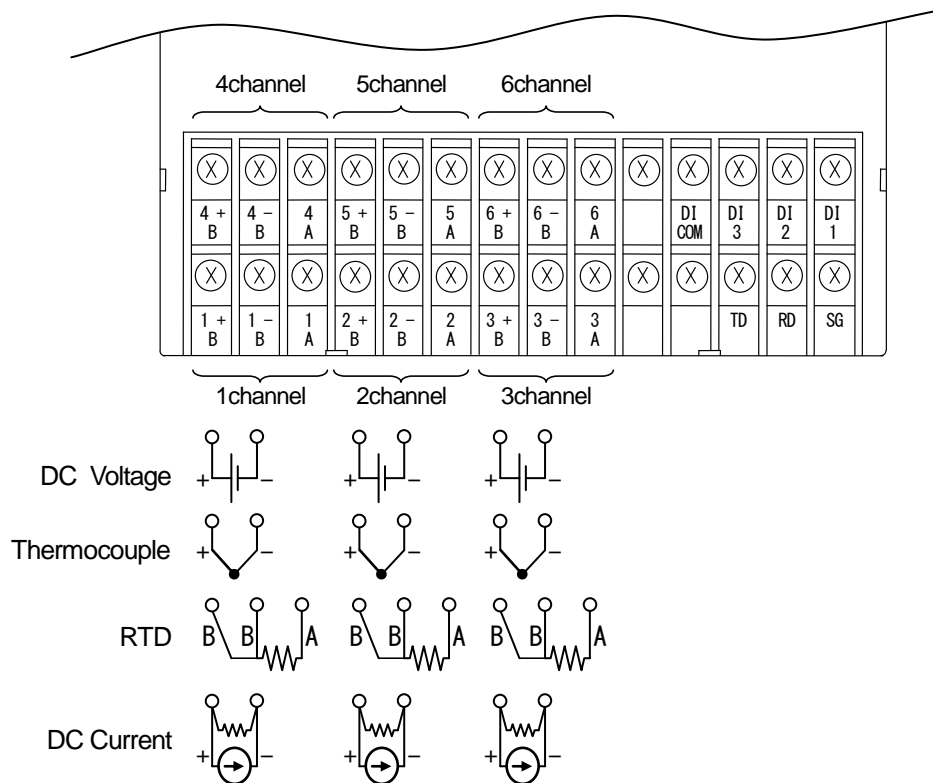
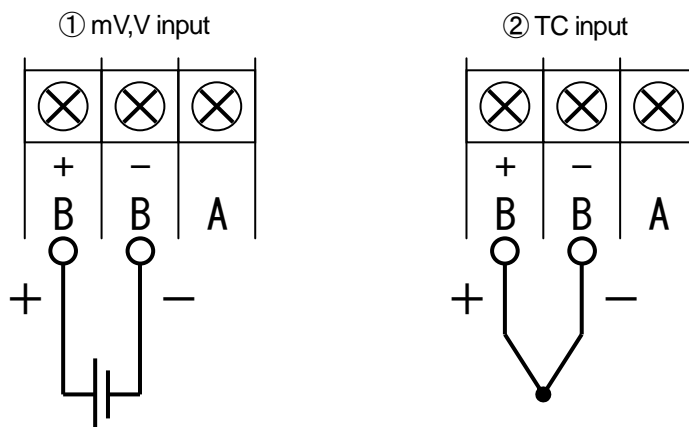
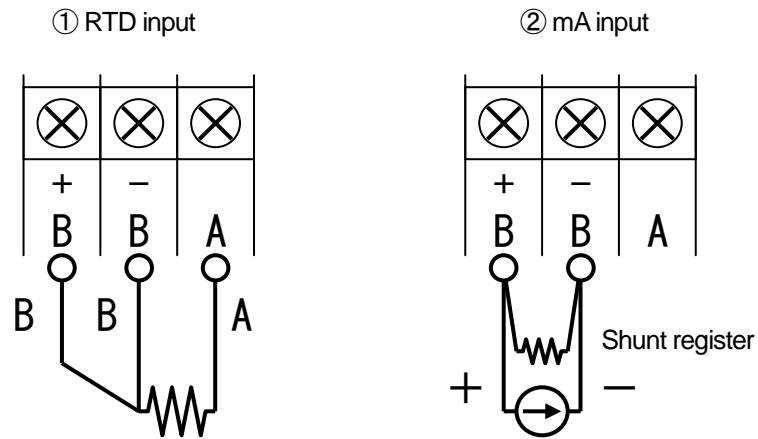

Fig. 4.3 Input Wiring
Fig. 4.4 Input Wiring (mV, V, TC)
Fig. 4.5 Input Wiring (RTD,mA)
- 2) Wire the input lines refer to Fig. 4.3, Fig. 4.4(Page 18) and Fig. 4.5.(Page 19)